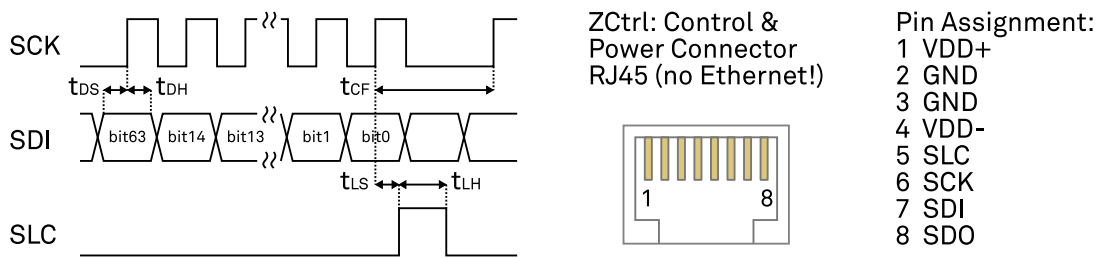

Figure 10.2. Digital control timing
- **Digital control:** SDI digital input signal to control the preamplifier settings, SDO output signal for device detection (details of function not disclosed to users), SCK clock signal, and SLC latch signal. SDI, SCK and SLC are used to program the shift registers on the amplifier and thereby adjust the correct settings. The setting bits are given in Table 10.4. The timing diagram of the digital interface is given in Figure 10.2. The MSB of the register settings is shifted in first.